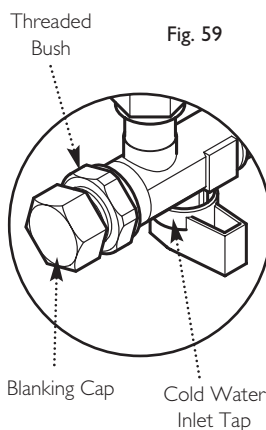

Fig. 59
20. Turn the tap off. Undo the blanking cap and remove the thread bush (Fig. 59).